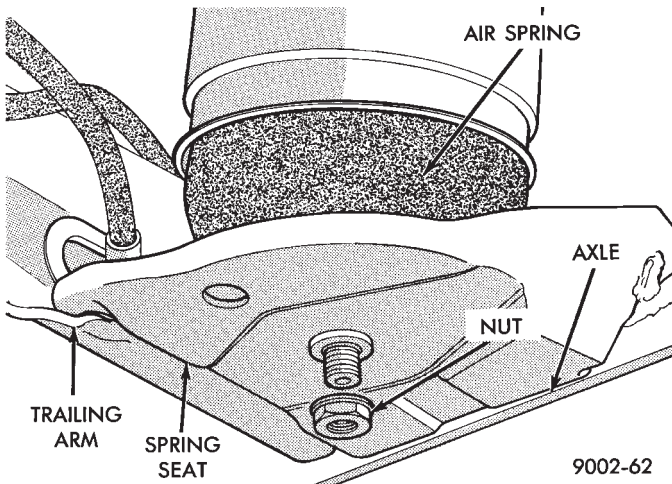

Fig. 19 Remove/Install Lower Spring to Axle Nut
- (5) Remove lower spring to axle nut (Fig. 19).